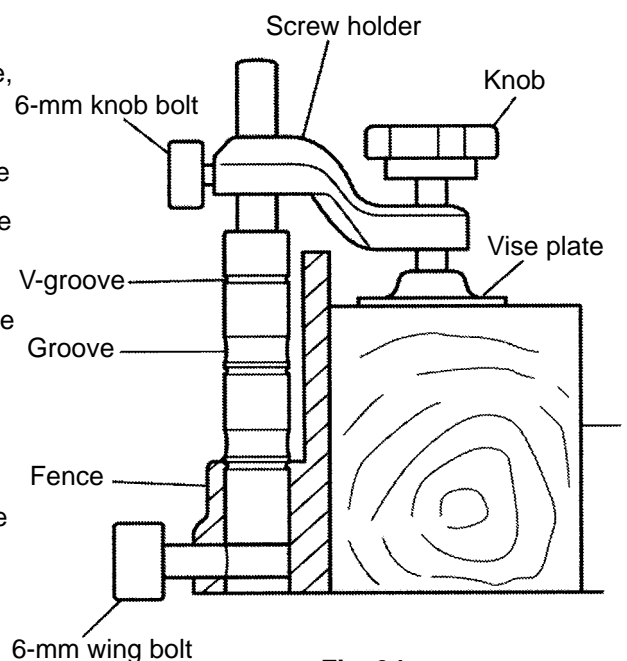

Fig. 34
(1) The vise assembly can be mounted on either the left or right fence. To mount the vise assembly on the left fence, align the upper surface of the fence with the V-groove on the vise shaft or the upper surface of the stage. Then the tip of the 6-mm wing bolt properly fits in the groove on the vise shaft. To mount the vise assembly on the right fence, align the tip of the 6-mm wing bolt at the rear of the fence with the vise shaft groove that is 1 or 2 stages lower than the above. Thus the height of the vise shaft can be adjusted in three stages. On completion of adjustment, tighten the 6-mm wing bolt to secure the vise shaft (Fig. 34).
(2) Adjust the position of the screw holder and lock it in position by tightening the 6-mm knob bolt.
(3) Turn the knob to clamp the workpiece securely.